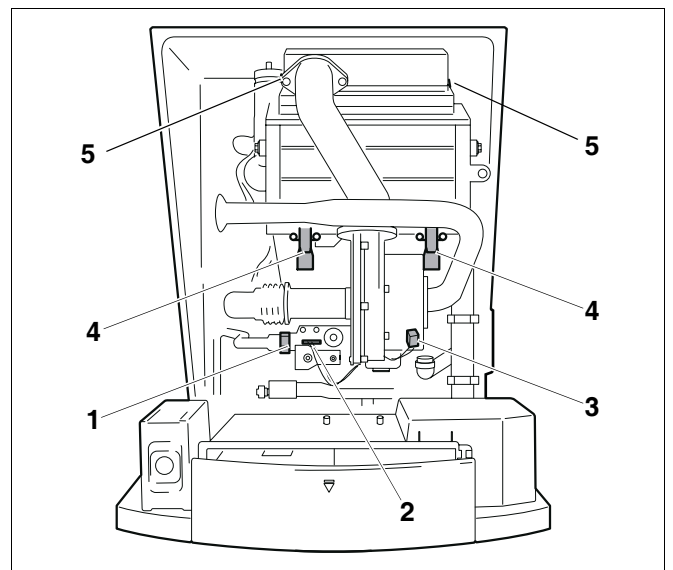
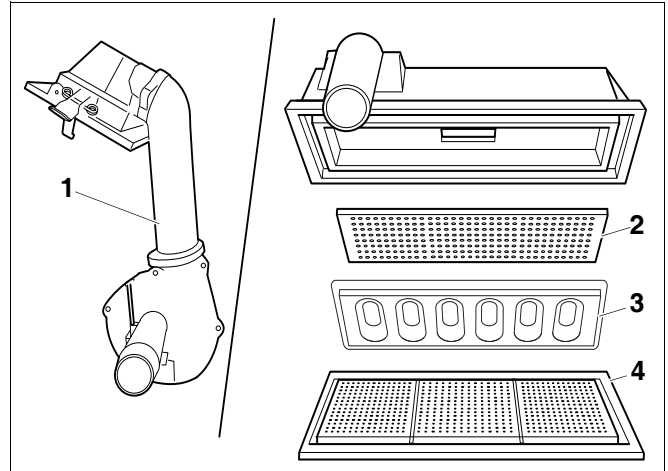

Fig. 44 Removing the connections
Fig. 45 Cleaning the burner cover, gas/air distributor plate, orifice plate and burner
- Loosen the threaded connection to the gas control valve (fig. 44, pos. 1) and pull the plug (fig. 44, pos. 2) from the gas valve terminal block.
- Pull the plug from the fan unit (fig. 44, pos. 3).
- Loosen both sets of retaining clips (fig. 44, pos. 4 and 5) of the burner cover and remove the burner cover with the fan unit and the gas burner fitting (fig. 45, pos. 1).
- Remove the gas/air distributor plate (fig. 45, pos. 2), the orifice plate (GB142-24, GB142-30 and GB142-60 only, fig. 45, pos. 3) and the burner (fig. 45, pos. 4). Note that the orifice plate of the GB142-60 has a different shape.
- Loosen the screw connection on the gas valve (fig. 44, pos. 1, page 49) and pull the plug (fig. 44, pos. 2, page 49) from the gas valve.
- Pull both plugs from the fan unit (fig. 44, pos. 3, page 49).
- Loosen both retaining clips (fig. 44, pos. 4, page 49) on the burner cover and remove the burner cover together with the fan unit and the gas valve.